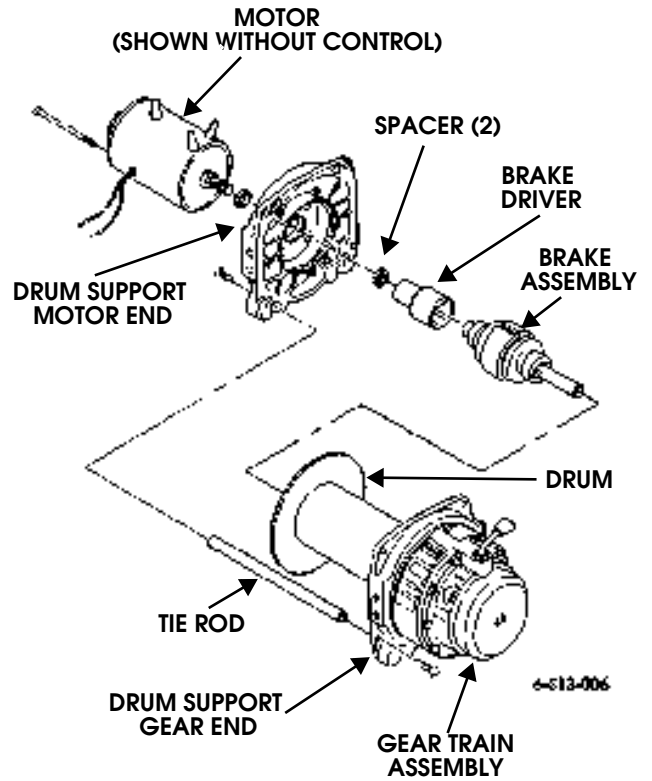

Figure 9-190: Drum Support and Gear Train Assembly
5. Mark motor end drum support, gear train assembly, and gear end drum support for assembly (Figure 9-190).
9. Remove drum assembly from gear train assembly (Figure 9-190).